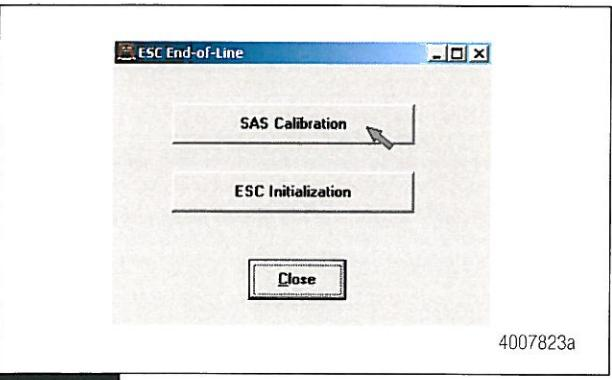

Figure 13
- Click SAS Calibration in the message box. Figure 13.